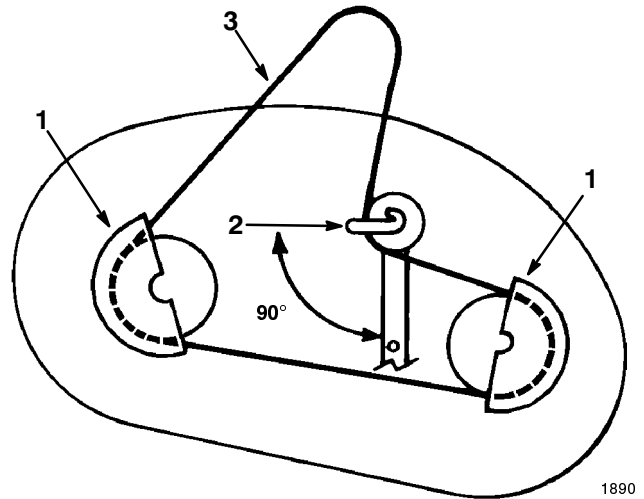

Figure 49
2. Remove the pulley cover mounting screws and pulley covers from both blade pulleys (Fig. 49).
3. Loosen, but do not remove, the bolt and nut securing the idler pulley and belt guide (Fig. 49).
2. Position the idler pulley belt guide so it points toward the left, 90° to the idler arm (Fig. 49). Tighten the mounting bolt and locknut securing the idler pulley and belt guide.
3. Install the left and right pulley covers with the mounting screws (Fig. 49).